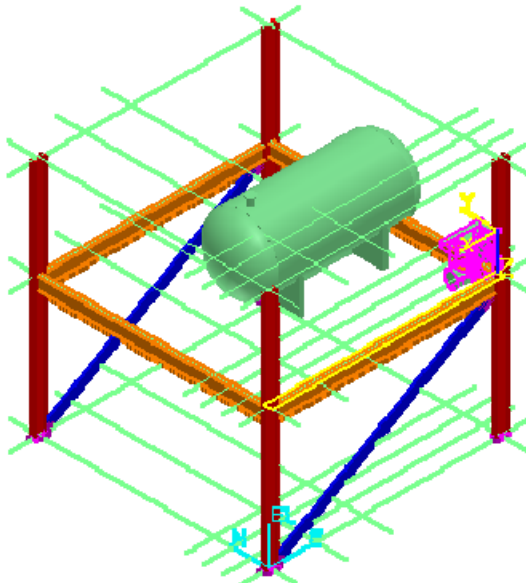

Figure 26: The Rotated Equipment with Align Type Relationship
5. The equipment flips to meet the new relationship type as shown in Figure 26.